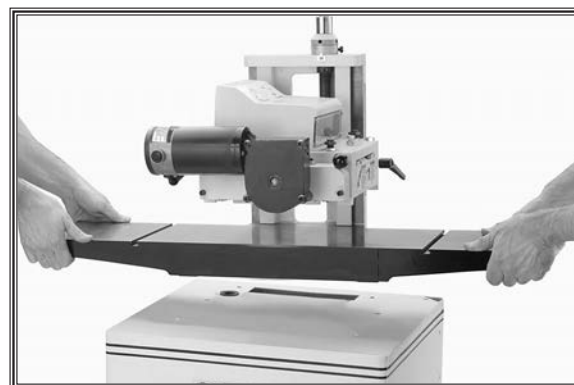

Figure 11. Placing planer/moulder on stand.
5. With the help of an assistant, lift the planer/moulder head/table assembly and position it onto the stand, as shown in **Figure 11**.